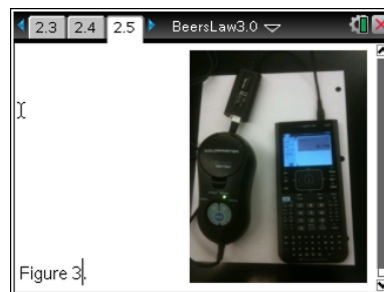

Figure 3.
4. Move to page 2.5 and see Figure 3. Then move to page 2.6 connect the colorimeter to the data-collection interface. Connect the interface to your TI-Nspire handheld.